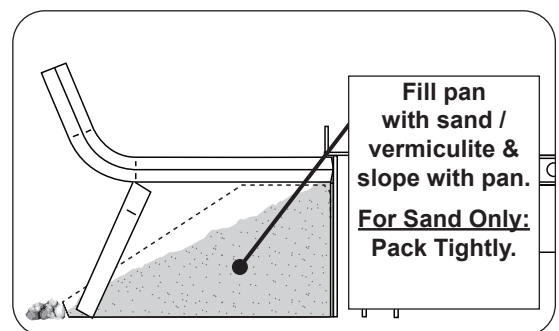

Fig. 16-4 Sand/vermiculite detail
2. **Slope the sand/vermiculite at the same angle as the burner pan.** This is important to ensure quiet lighting and even flame distribution. See Fig. 16-4.